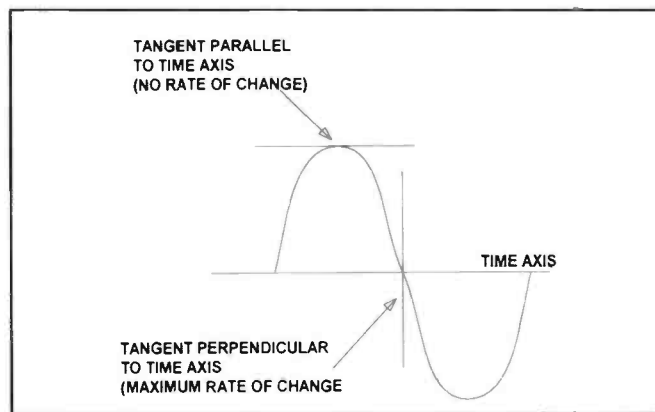

Figure 3.
7. B - See Figure 3 - The rate of change is equal to the angle a tangent to the curve makes with the time axis. At the maximum current the tangent is parallel to the time axis, so, the rate of change of current is 0. At the point where the current is 0 the tangent is maximum.